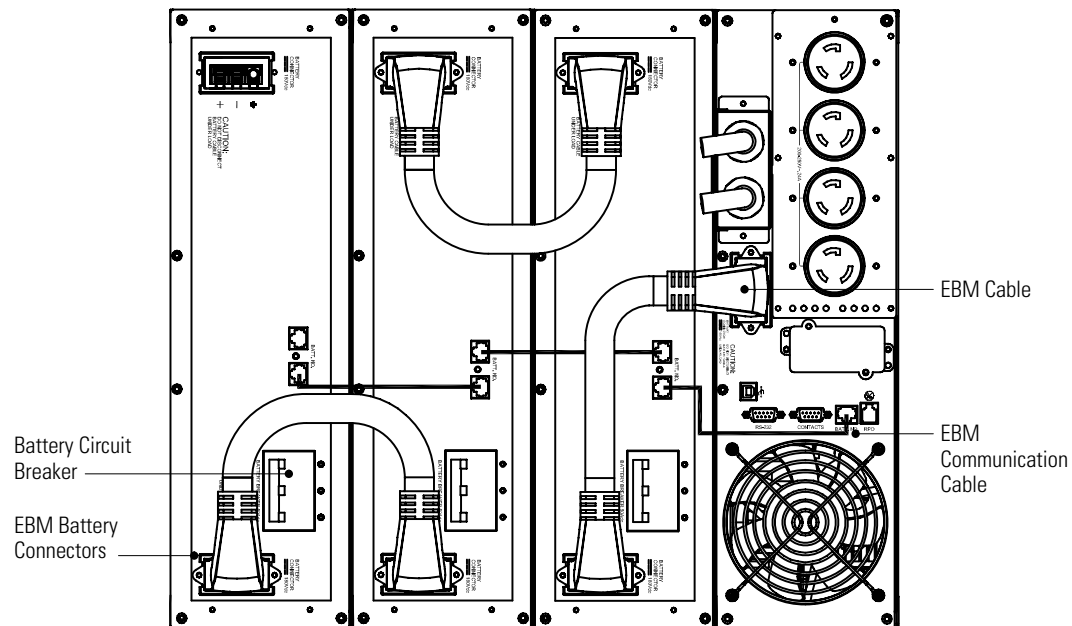

Figure 17. UPS Installation with Three EBMs
3. Plug the EBM cable into the battery connector. Plug the EBM communication cable into the RJ-11 port. See Figure 17.